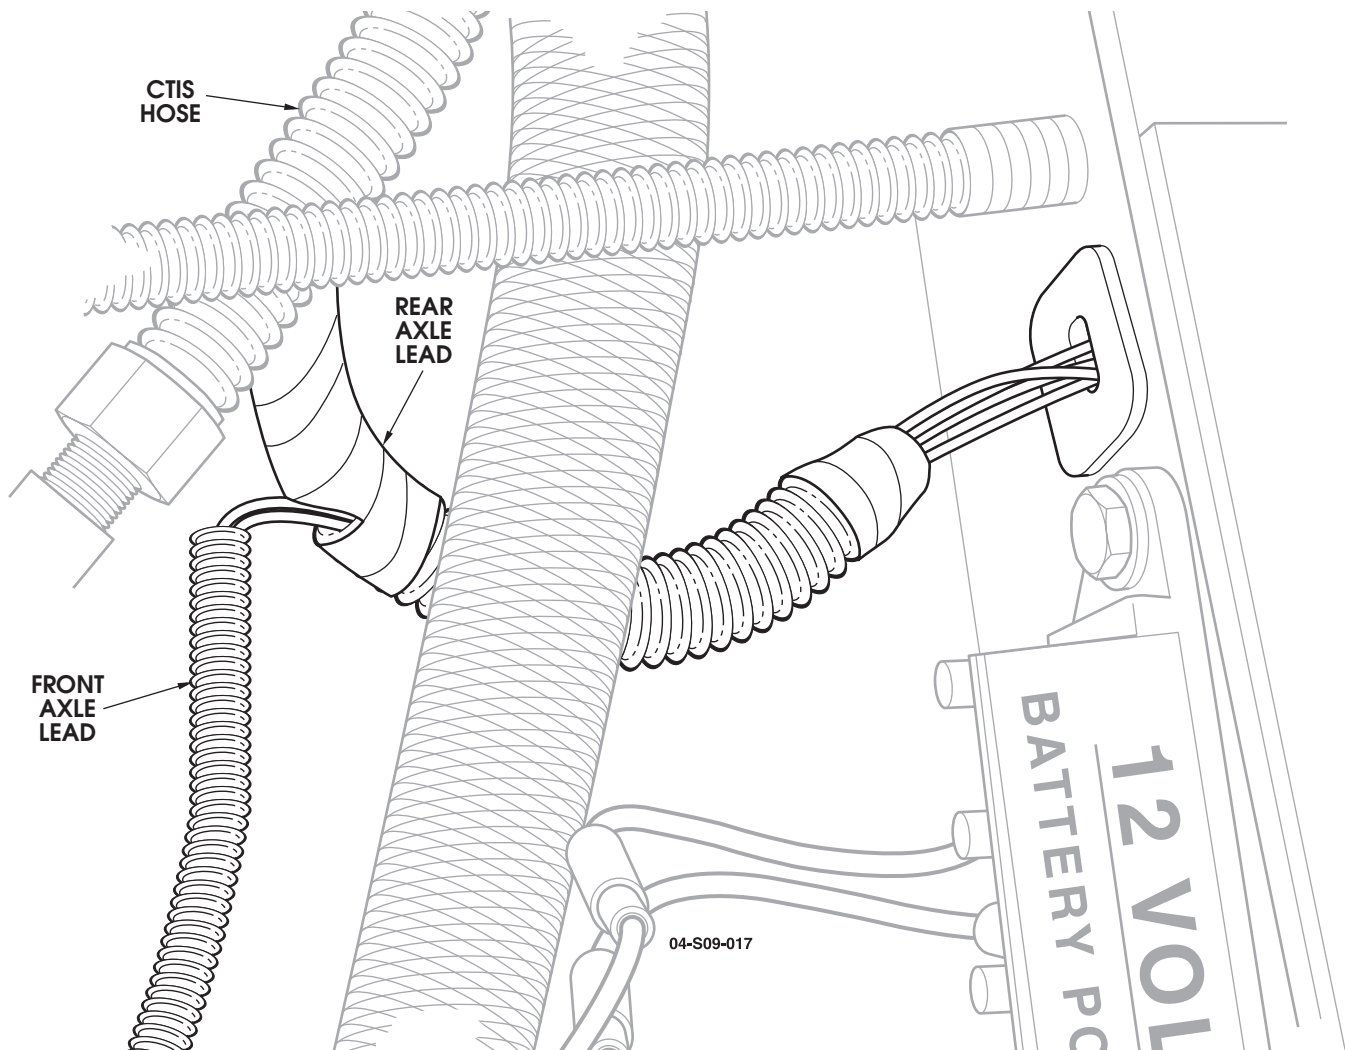

Figure 15: Harness routing from the grommet out.
- 28. Route the long rear axle wire lead from the cowl grommet (engine side) alongside the rear CTIS hose down to the underbody harness behind the left front body mount to the gap between the body and the frame (See Figures 15 & 16).